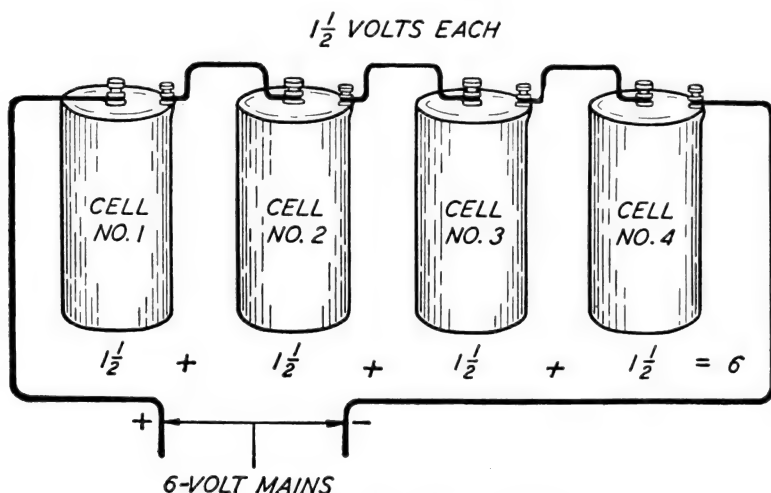
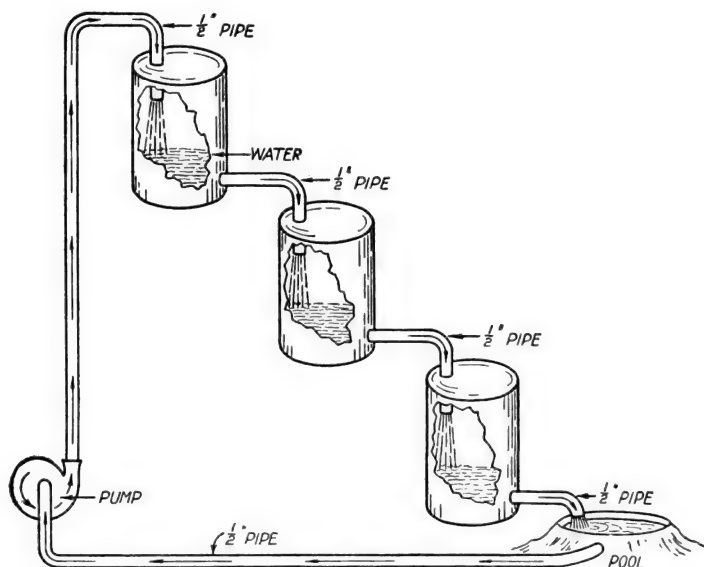

Fig. 1. Dry Cells Connected in Series
Fig. 2. Flow of Water Through a Series of Pipes and Tanks
**Series Circuits.** There are two methods of connecting electrical devices for the forming of circuits. Let us go back to the dry cell for an illustration of this. Suppose you took four of the common dry cells—the kind used on door bells for example. If you connected them together with a wire running from the carbon or center terminal of one cell to the zinc or outside terminal of the other, and so on until all four were connected, as shown in Fig. 1, you would
Having selected a lamp of suitable voltage for operation in the circuit, we can connect it directly across the mains from these four cells, Fig. 1, and it will operate satisfactorily. We must not expect that these four cells can keep on supplying current to this lamp for an indefinite period, for dry cells are not intended for continuous operation, but for intermittent service. When used intermittently, they have some chance to recuperate slightly between the calls placed upon them to supply power, and their life is thereby lengthened. The only path for the current to travel in this series connection of which we are studying is through each and every device in the circuit. *Therefore the current through each device in a series circuit is the same,* like the flow of water through the pump, pipes, and tanks, Fig. 2. This simple statement holds as true for current-consuming devices which may be connected in the circuit as for current-producing devices. If we want to measure the electric current flowing through an electrical circuit we place an ammeter in the electric circuit and the meter will measure the current flowing through itself, which will be the current of the circuit.